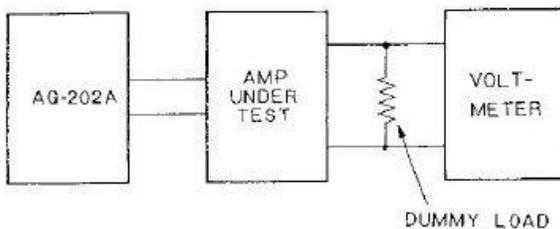

Fig. 2 Test Circuit
Set up the test circuit shown in Fig. 2 with WAVE FORM selector switch of model AG-202A set at position  $\sim$  so as to provide the sine wave signal.
WAVE FORM selector switch (6) is set to position  $\square$ . As the test circuit, the one shown in Fig. 2 may be used with the electronic voltmeter replaced with an oscilloscope.